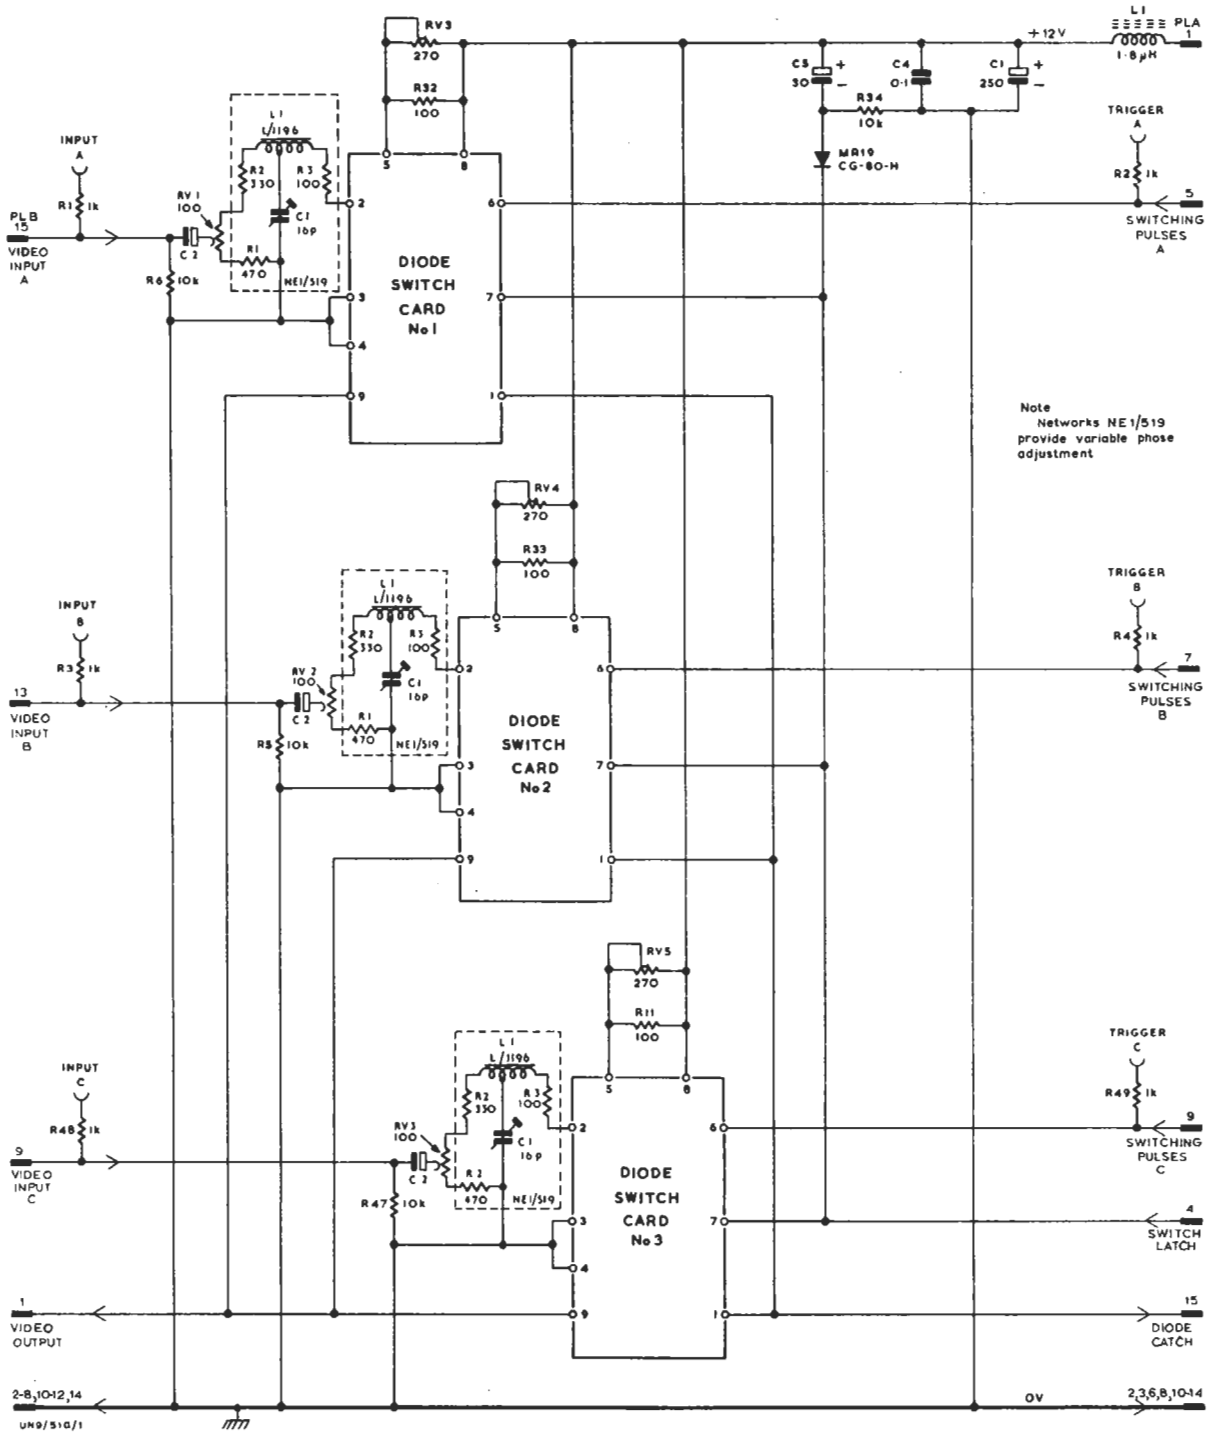
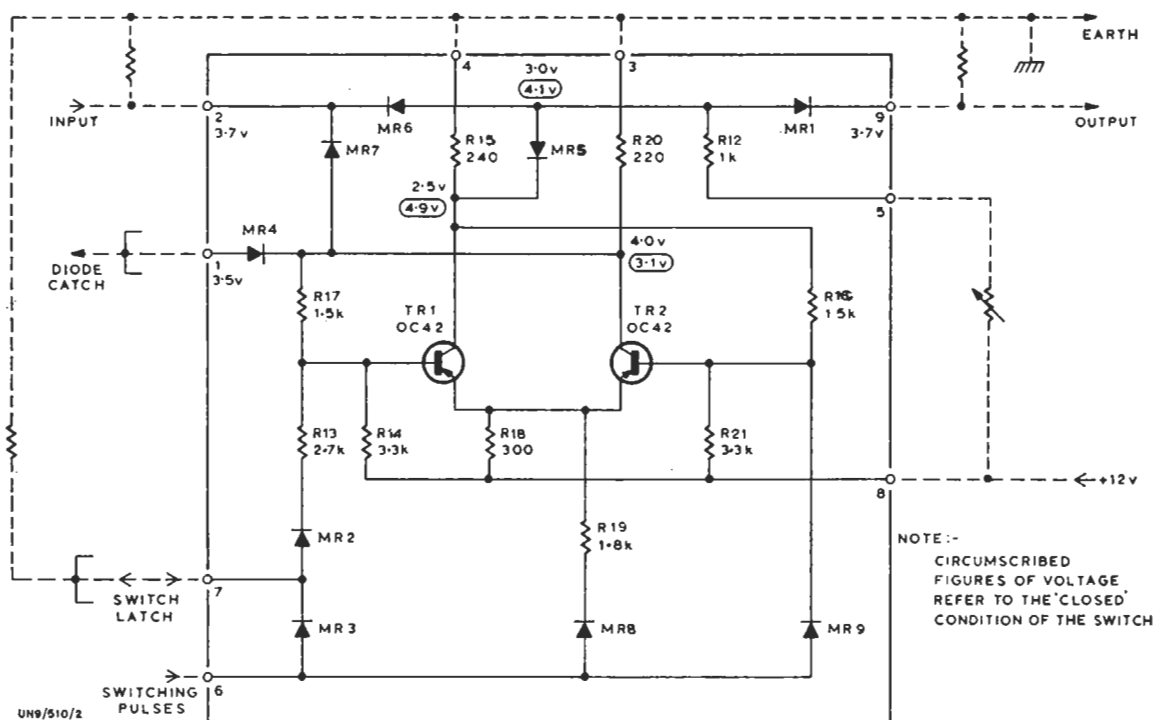

Fig. 1 Circuit of Three-switch Switch Unit UN9/510
Fig. 2 Circuit of a UN9/510 Switch Card
The circuit diagram of a complete UN9/510 unit is shown in Fig. 1 and a circuit of one of the switch cards (Card 1) is shown in Fig. 2. The component numbers for cards 2 and 3 are given in Table 1.
The signal path from input to output of the switch (see Fig. 2) is through diodes MR6 and MR1. When the potential at the junction of these diodes is higher than the potentials at the input and output terminals of the card, the diodes conduct and the switch is closed. When the potential at the junction of the diodes is lower than that at the input and output terminals the diodes are reverse-biased and the switch is open. The state of the diode switch is determined by the condition of transistor TR1. When TR1 is cut off, diode MR5 in its collector circuit conducts, the junction of the switch diodes is connected to a potential divider consisting of R12 and R15 and the switch is open. When TR1 conducts, MR5 is reverse-biased and the switch is closed.
3. Trigger *On* switch No. 1 (by applying +12 volts to switching-pulse input A) and check that the output signal has the same amplitude as the input signal. If necessary adjust RV1 (Fig. 1) to match the output and input amplitudes.